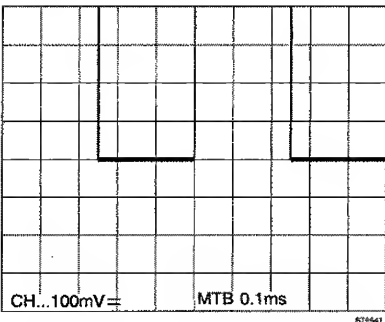
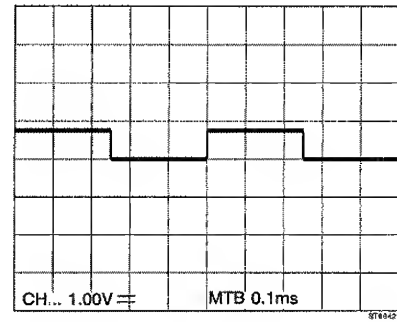

Figure 3.4
Figure 3.5
- Verify that this results in an upward signal shift. Fig. 3.4 shows this for channels with 100mV input sensitivity; the shift is 3 divisions. Fig. 3.5 shows this for channels with 1.00 V input sensitivity; the shift is 0.3 divisions..